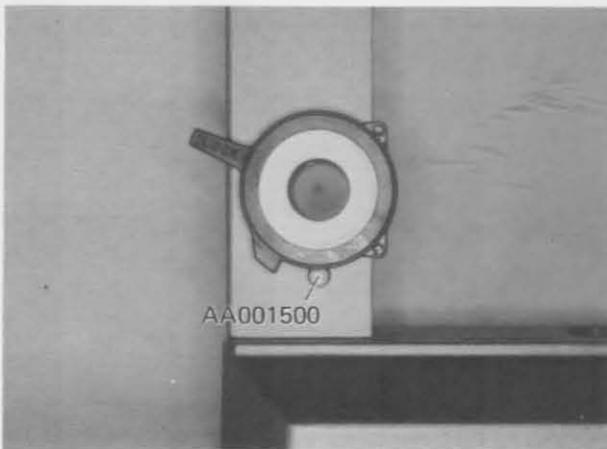

Fig. 3-32
- a) Remove Stopper AA001500. (See Fig. 3-32)